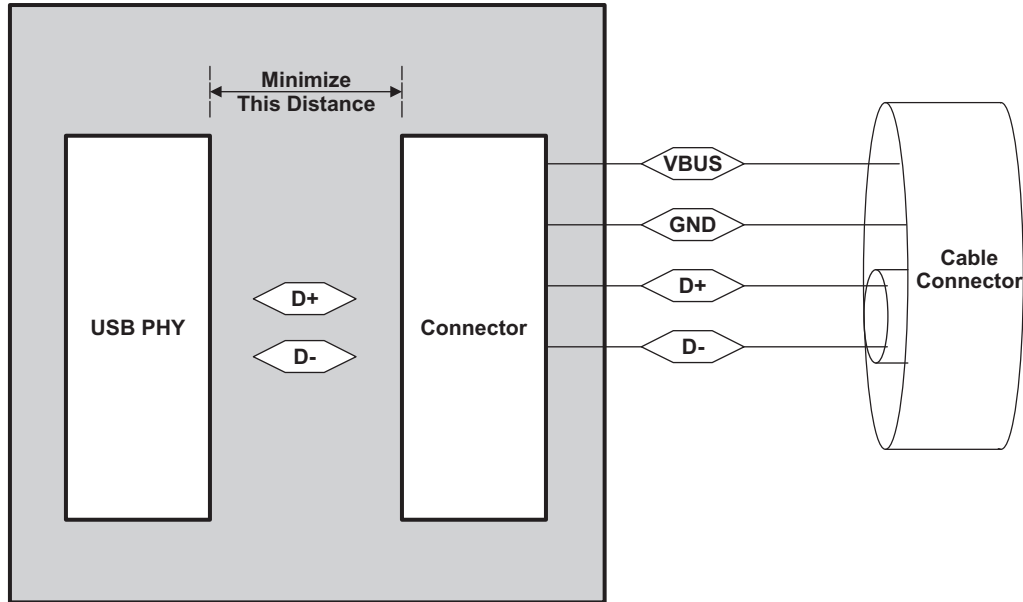

Figure 7-35. USB PHY Connector and Cable Connector
- DP/DM traces should always be matched lengths and must be no more than 4 inches in length; otherwise, the eye opening may be degraded (see Figure 7-35).